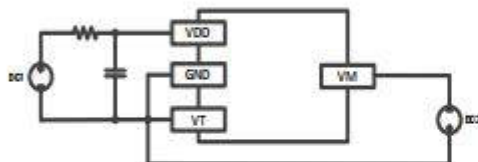

Figure6-1
a. According to the figure6-1, connect the power supply DC1 to the B + and GND pins of the system board and set the voltage to about 3.6V. Connect the power supply from GND to VM to DC2 power supply and set 100mV current limiting 10mA. Observe the waveform.